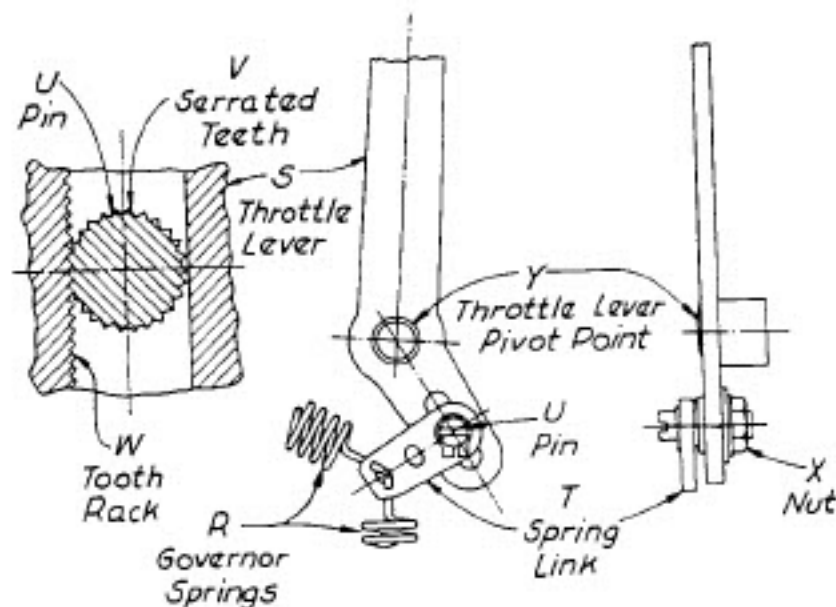

FIGURE 8 — Hoof Governor Sensitivity Adjustment
Refer to Figure 8. The governor springs (R) are attached to the lower half of the throttle lever (S) by a spring link (T) which oscillates on a pin (U). The pin has serrated teeth (V) which engage a tooth rack (W) in the throttle lever slot.